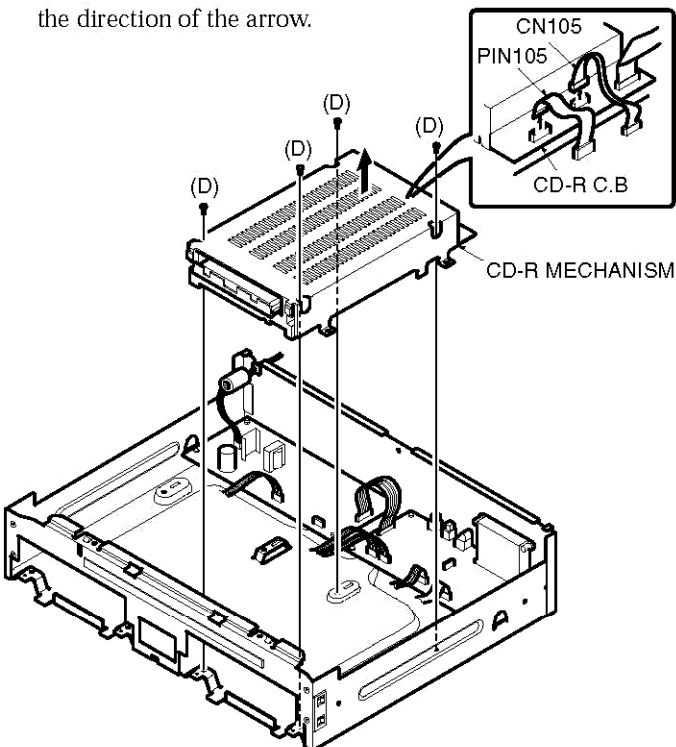

Fig. 6
6. CD-R Mechanism Removal (See Fig. 6)